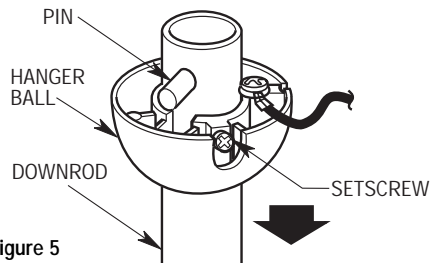

Figure 5
- 7. Remove the hanger ball by loosening the setscrew in the hanger ball until the ball falls freely down the downrod (Figure 5). Remove the pin from the downrod, then remove the hanger ball. Retain the pin and hanger ball for reinstallation in step 19.